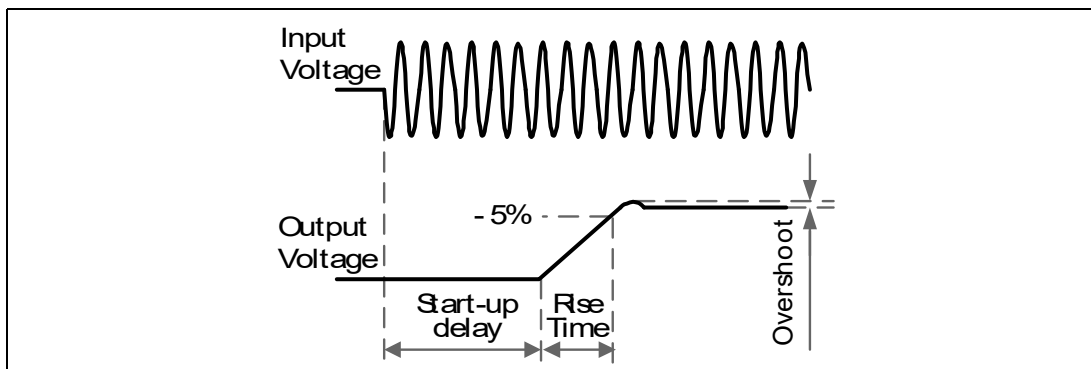

Figure 5.2 Turn-on behavior, definitions
- A** Turn-on delay acc. Figure 5.2
- B** Rise time acc. Figure 5.2